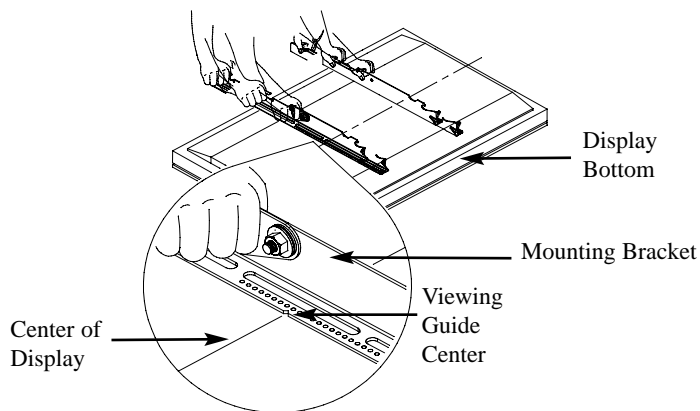

Figure 5
5. The mounting brackets are designed with a center of viewing guide on the side of them (Figure 5).